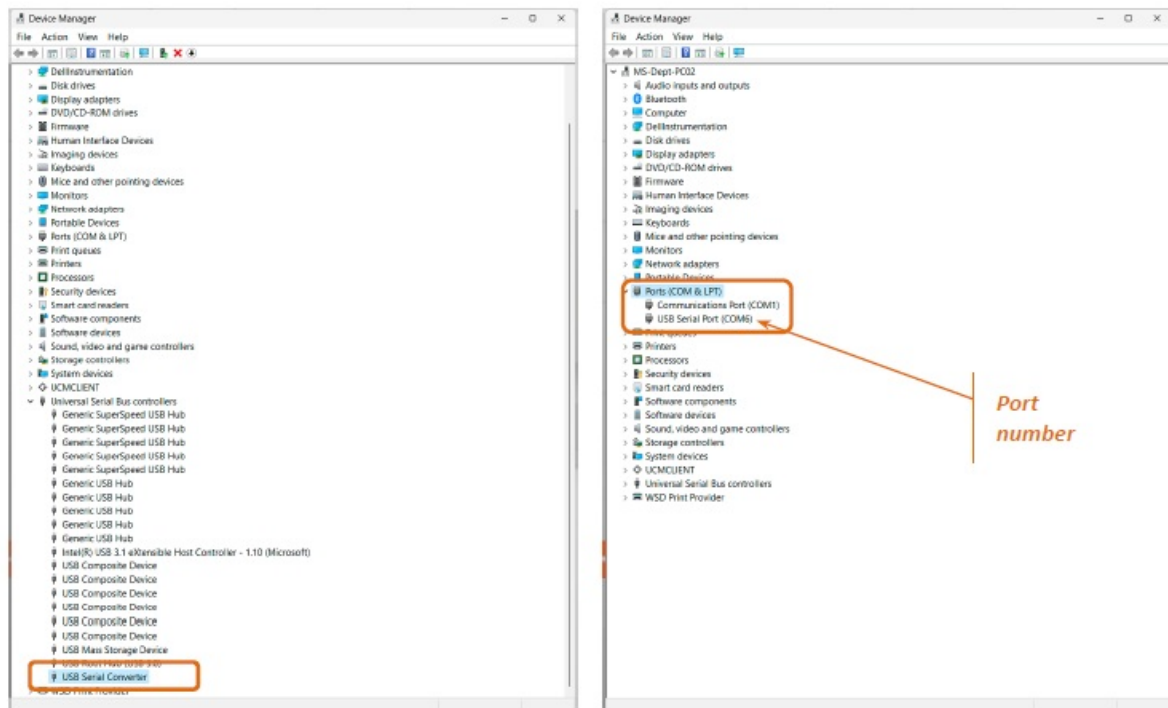

Figure 1-3 | PC Device Manager
- Go to Device Manager on your PC (right mouse click over Windows Start button -> Device Manager). The converter's driver should be installed automatically, and you can see a situation similar to Figure 1-3 | PC Device Manager (if driver installation is OK).